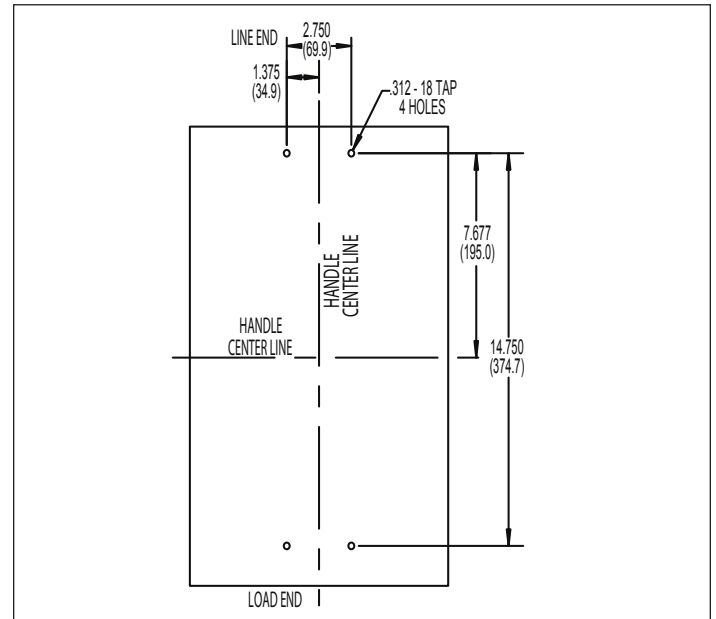
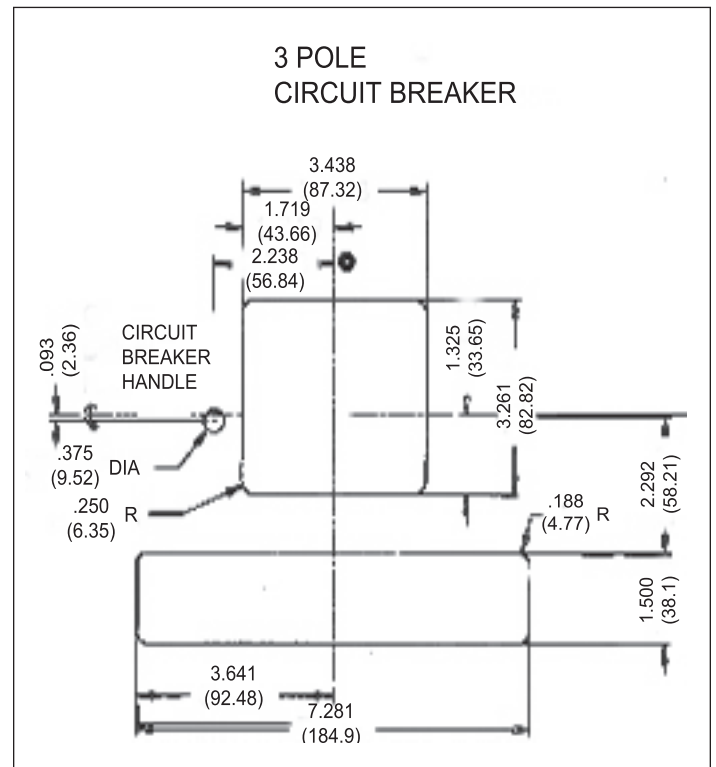

Figure 3. Mounting Bolt Drilling Plan.
Figure 4. Escutcheon and Cutout Dimensions.
- b. For individual surface mounting drill mounting panel using the drilling plan shown in Fig. 3 for M-Frame. For panel-board mounting, only load end support mounting holes are required. For dead-front cover applications cut out cover to correct escutcheon dimensions (see Fig. 4).